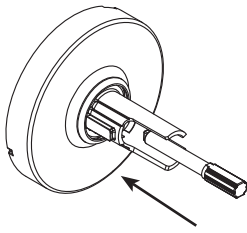

Figure 17
2. Insert adjustment tool (provided with lock) into interior cap located within the shank (Figures 17 & 18).